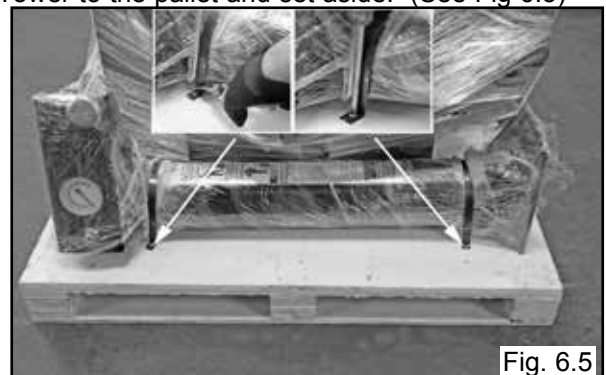

Fig. 6.5
4. Either cut or unscrew the metal strapping holding the Tilt Tower to the pallet and set aside. (See Fig 6.5)